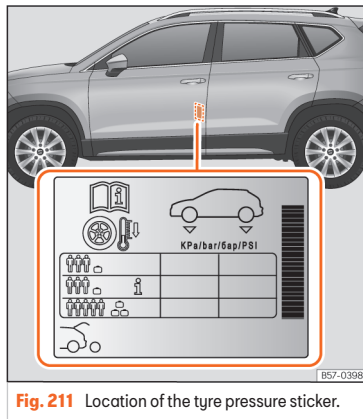

Fig. 211 Location of the tyre pressure sticker.
- Adjust tyre pressure to the load being carried by the vehicle >>> Fig. 211.
The values of the tyre pressure are shown on the sticker label located on the rear frame of the front left door »» Fig. 211.
The tyre pressure must be adjusted according to the load the vehicle is carrying. If the vehicle is going to be fully loaded, increase the tyre pressure to the maximum load value shown on the sticker label »» Fig. 211.
In the case of a minimised temporary spare wheel (125/70 R16 or 125/70 R18) inflate to a pressure of 4,2 bar as indicated on the tyre pressure label »» Fig. 211.
Depending on the vehicle, tyre pressure can be adjusted to medium load to improve driving comfort [tyre pressure **i** »» Fig. 211]. When driving with comfort tyre pressure fuel consumption may increase slightly.
- **The driver is responsible for ensuring that all of the vehicle tyres are correctly inflated to the right pressure. The recommended tyre pressure is indicated on the label »» Fig. 211.**
- **Tyre pressure should be that indicated on the label when the tyres are cold at all times »» Fig. 211.**